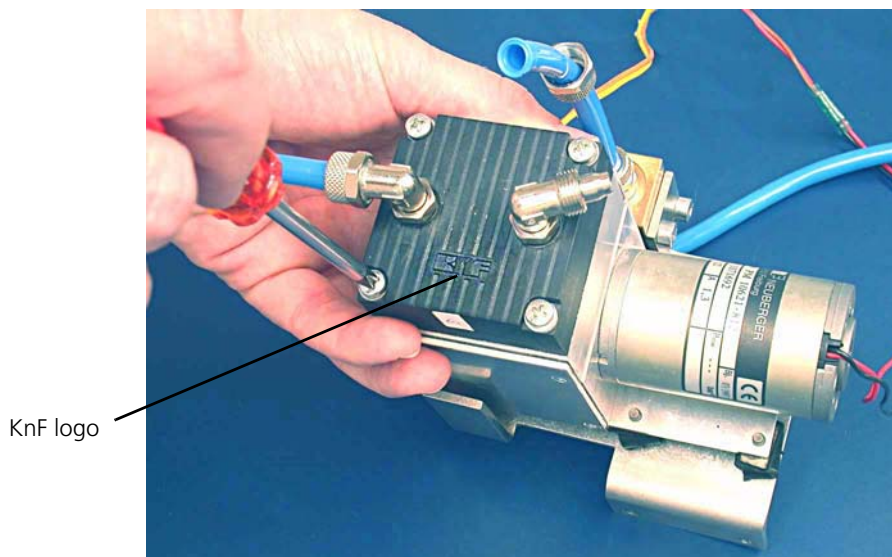

Figure 11-174. Removing the top of the compressor
2. Remove the top of the compressor by unscrewing the four cross-head screws. (Figure 11-174.)
7. Refit the top of the compressor, making sure that the letters **Knf** embossed on the top are positioned towards you. (See Figure 11-174, *Removing the top of the compressor*, on page 11-157.)